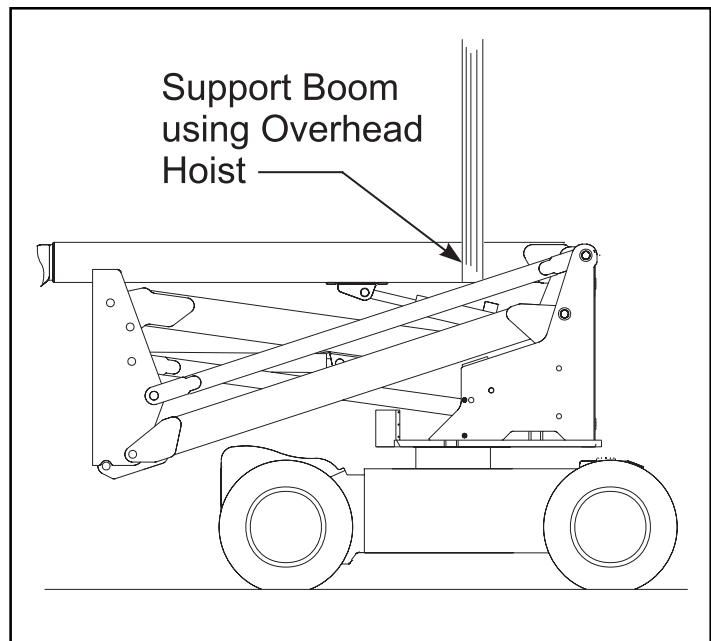

Figure 3-30: Removing Boom Extend Cylinder
1. Use an overhead hoist or crane to support the rear of the boom (Figure 3-30).